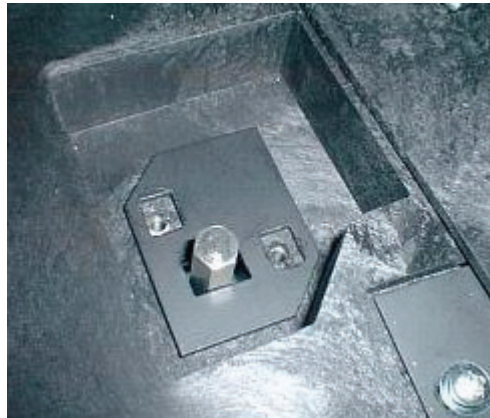

Figure 80 Replacing the shipping clamp plates
5. Locate the lamp and the two electrode connectors, as shown in Figure 80.